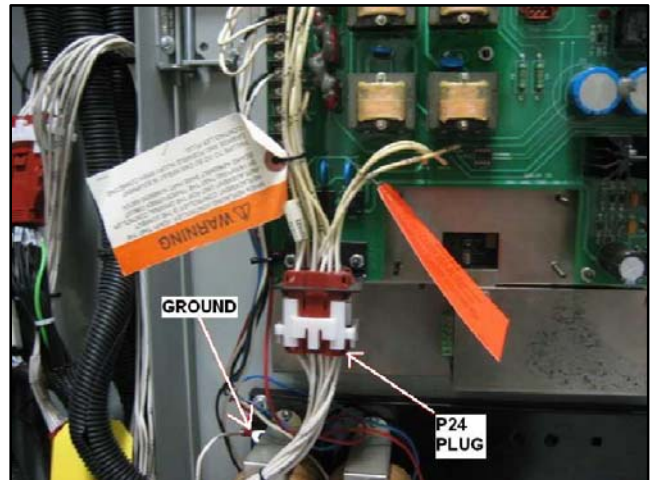

Figure 16 Disconnect P24 and Ground
13. Disconnect plug P24 and the ground connection. See Figure 16.